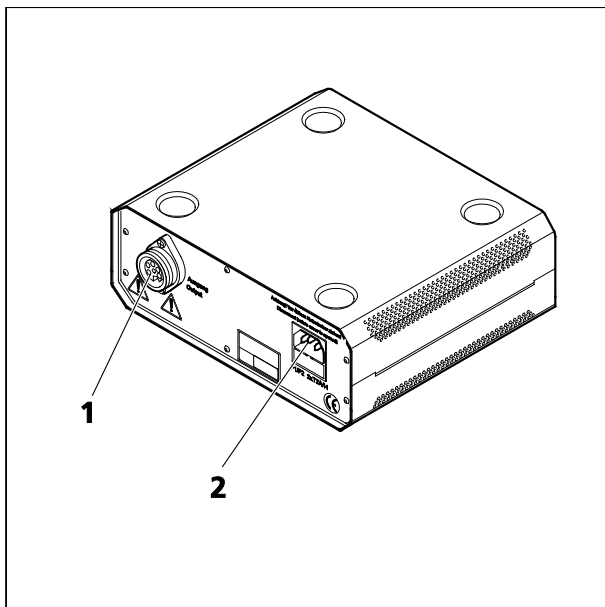

Fig. 54 HBO 100 transformer
- Insert the multi-pin plug of the HBO 100 illuminator into the device connector (Fig. 54/1) on the HBO 100 transformer and secure it by means of a coupling ring.
- First, connect the power cable to the power socket (Fig. 54/2) on the HBO 100 transformer, and then connect it to a power outlet.